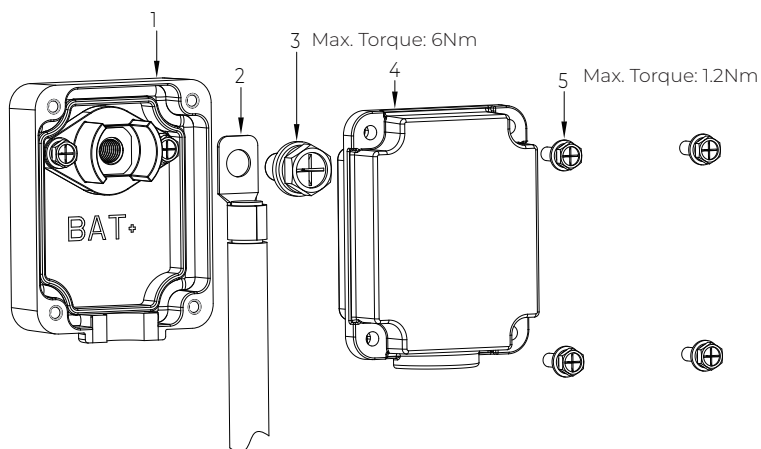

Figure 6-9-4
- Repeat to connect the red battery power cable. See Figure 6-9-4.